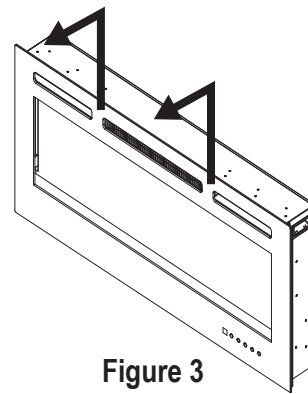

Figure 3
- D. Carefully lift the glass panel off the fireplace and place it on a soft, clean surface. Remove the packing paper and log media from inside the unit. [Figure 3]